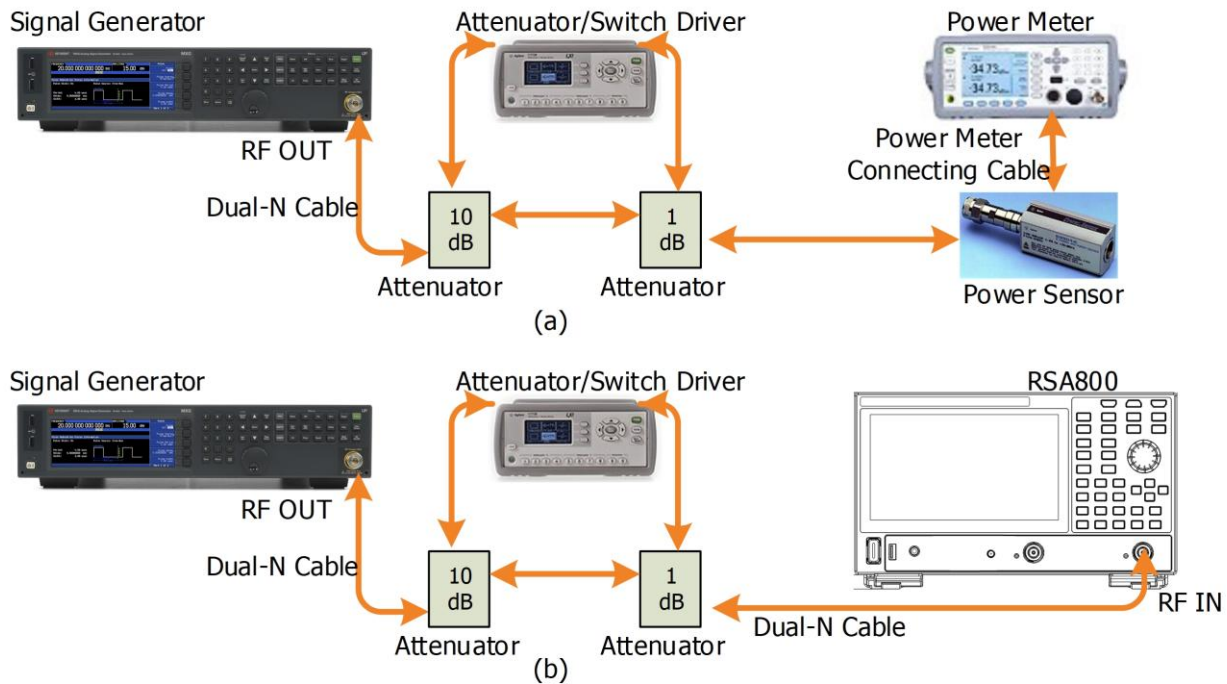

Figure 4.8 Input Attenuation Switching Uncertainty Test Connection Diagram
2. Connect the output terminal of the signal generator with the program-controlled attenuator; then, connect the program-controlled attenuator with the power sensor, as shown in Figure 4.8 \(a\).
6. Disconnect the program-controlled attenuator and the power sensor. Connect the output of the program-controlled attenuator to the RF input terminal of the spectrum analyzer, as shown in Figure 4.8 \(b\).